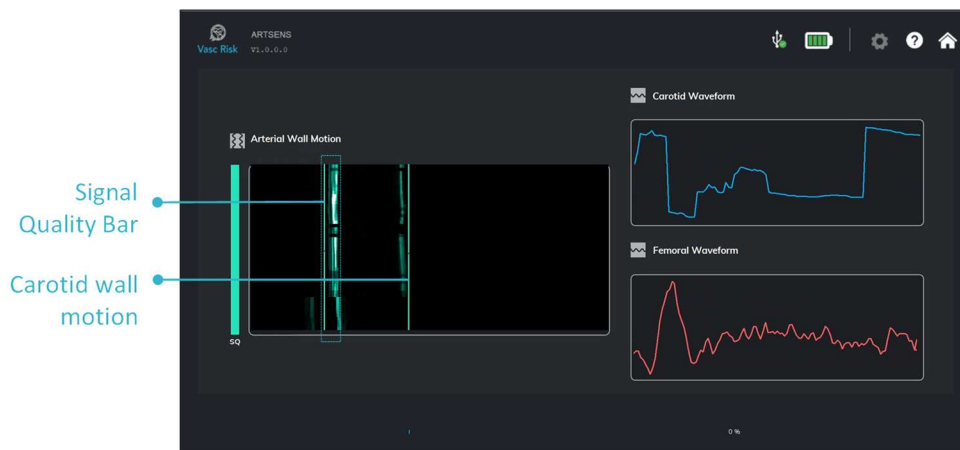
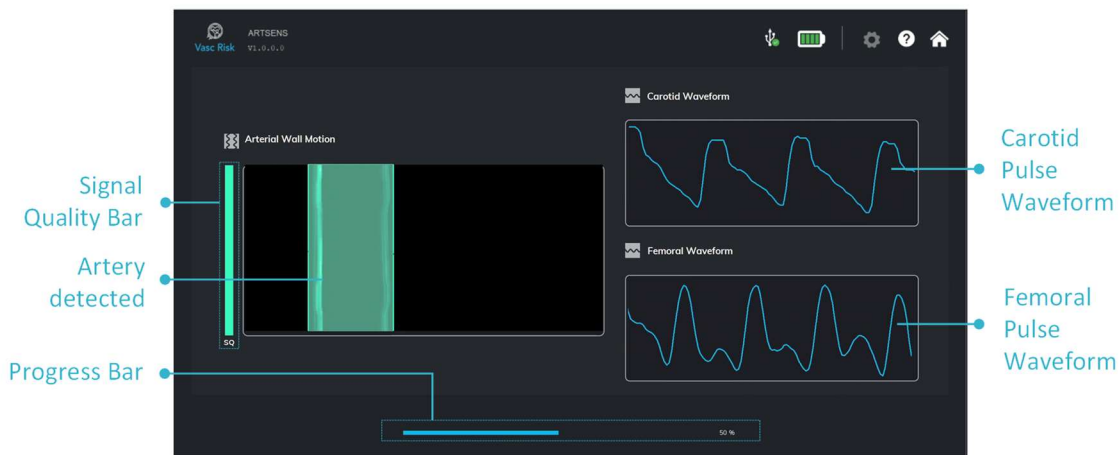

Fig.24. Measurement Page
Fig.25. Measurement Page
13. Once the probe is correctly placed on the artery, the Carotid motion display will only display two vertically adjacent patterns with consistent movements opposite to each other as shown in fig. 24.
- A Quality bar shows the Ultrasound Transducer probe recording quality as shown in fig. 25.
- On the measurement page (fig. 23), The Carotid motion display shows structures that are moving along the scan axis. Initially, as you are searching the artery there wouldn't be a characteristic pattern (fig. 24). But when you place a probe over the artery the Carotid motion display will show only two vertical adjacent patterns with consistent oscillations opposite to each other as shown in fig 25.